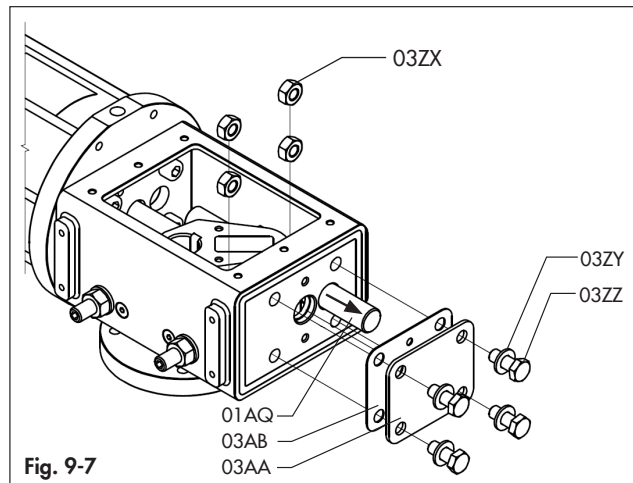

Fig. 9-7
- Remove the screws (03ZZ), the washers (03ZY) and the nuts (03ZX) from the double acting closing module. (Fig. 9-7).